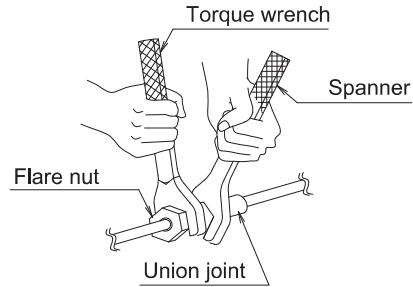

Fig.6
- When connecting the pipings to the air conditioner, make sure to use a spanner and a torque wrench as shown in Fig. 6.